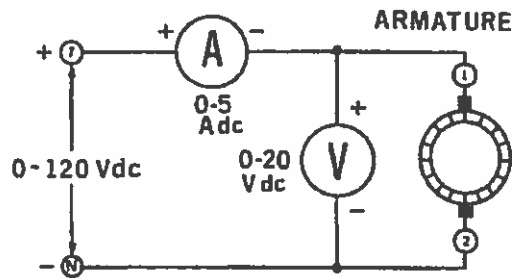

Figure 11-3.
- 9. Connect the circuit shown in Figure 11-3.